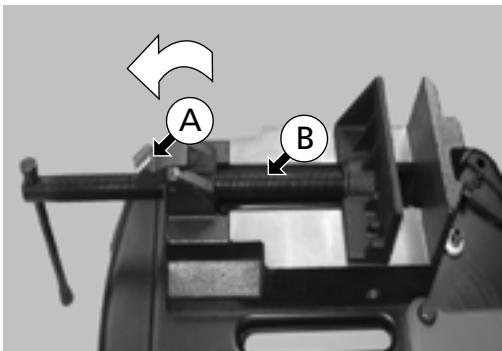

Fig. 15
1. Raise and turn the screw (A) "half a thread" in the direction of the arrow - (Fig. 15).
Elements of Fig. 15 - 18